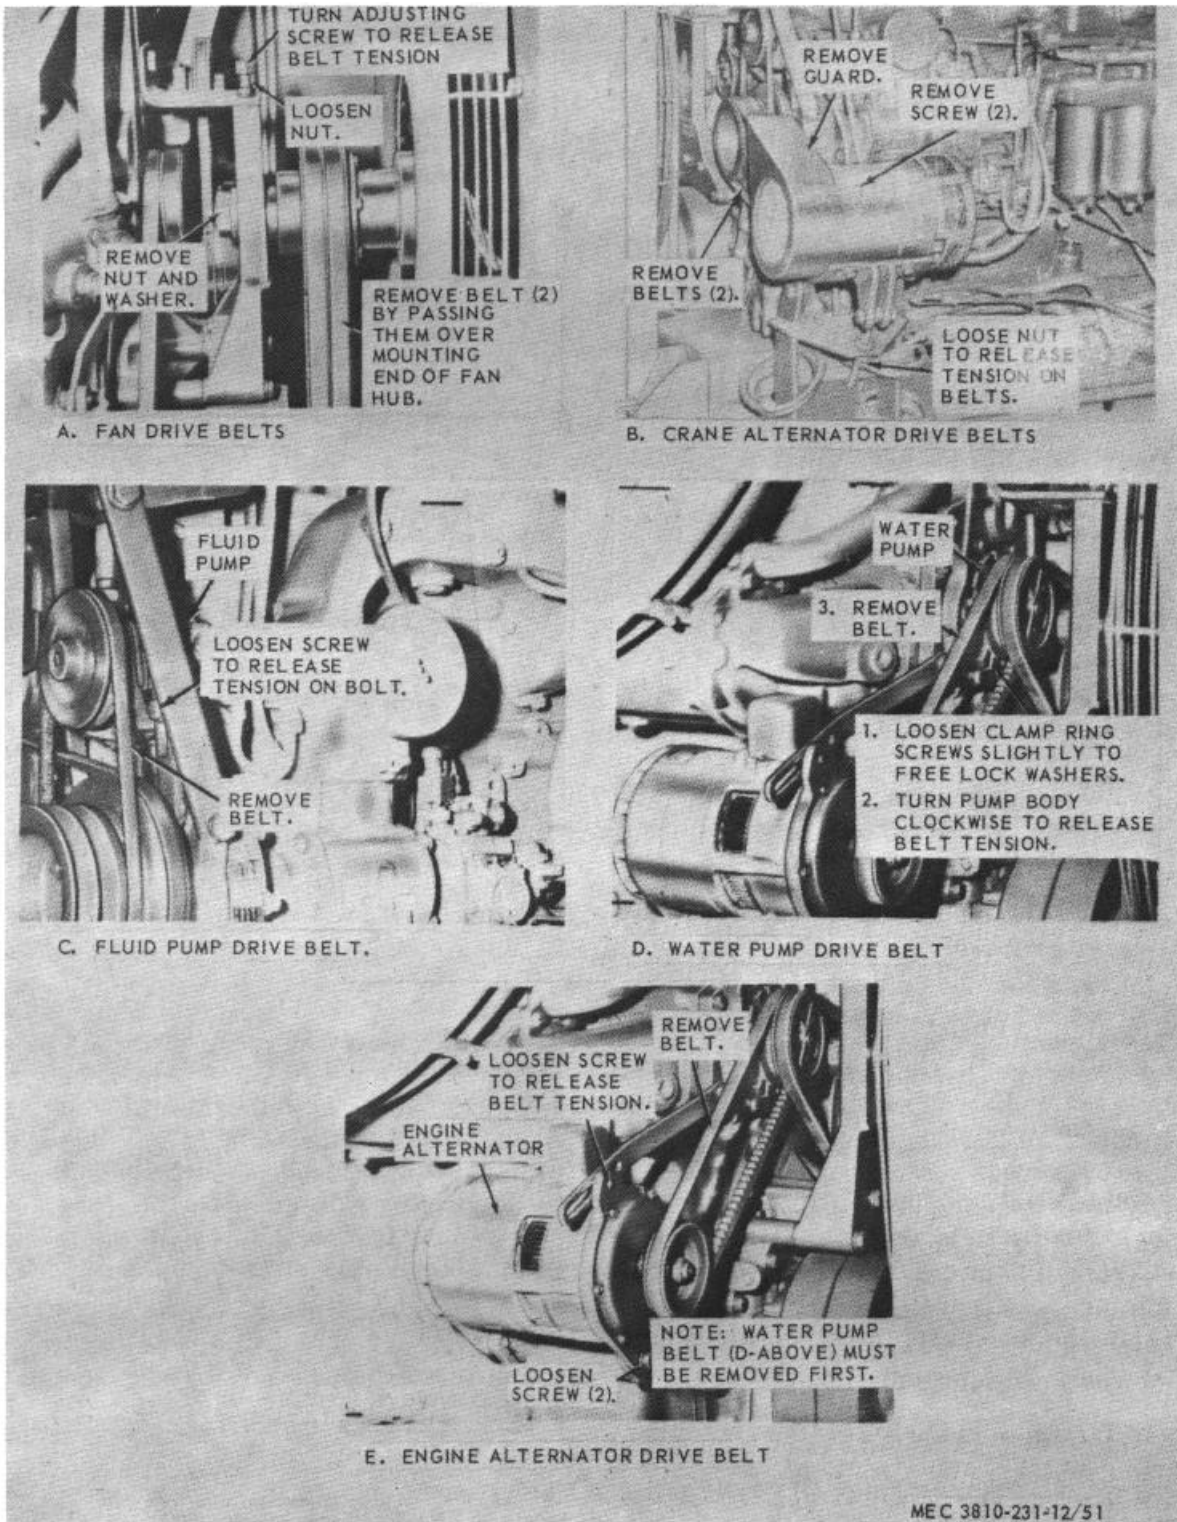

Figure 51. V-belt drives, removal and installation.
- (1) Remove fan guard and fan (para 82).
- (2) Remove fan drive belts as shown in figure 51.
- (1) Install the fan drive belts as shown in figure 51.
- (2) Adjust belt tension (para 39).
- (3) Replace fan and fan guard (para 82).
a. *Removal.* Remove crane alternator drive belts as instructed on figure 51.
- (1) Clean the drive belts with a cloth dampened with an approved cleaning solvent.
- (2) Inspect the drive belts for cracks, breaks, and frayed or stretched condition. Replace defective belts as a complete set of 2. Never replace a belt individually.
c. *Installation.* Install crane alternator drive belts as instructed on figure 51.
- (2) Remove fluid pump drive belt as instructed on figure 51.
- (1) Install fluid pump drive belt as instructed on figure 51.
- (2) Install crane alternator drive belts (para 96).
- (1) Remove fluid pump drive belt (para 97).
- (2) Remove water pump drive belt as shown in figure 51.
- (1) Install water pump drive belt as shown in figure 51.
- (2) Adjust drive belt tension (para 39).
- (3) Install fluid pump drive belt (para 97).
- (1) Remove water pump drive belt (para 98).
- (2) Remove alternator drive belt as shown in figure 51.
- (1) Install alternator drive belt as shown in figure 51, and adjust tension (para 39).
- (2) Install water pump drive belt (para 98).